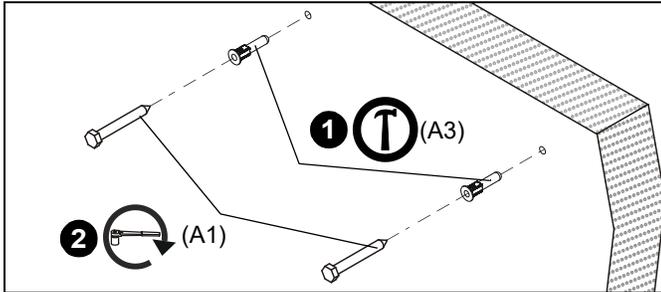

**Figure 66**
1. Use one 5/16 x 2-1/2" lag bolt (A1) through product and into pilot hole. (See Figure 66)